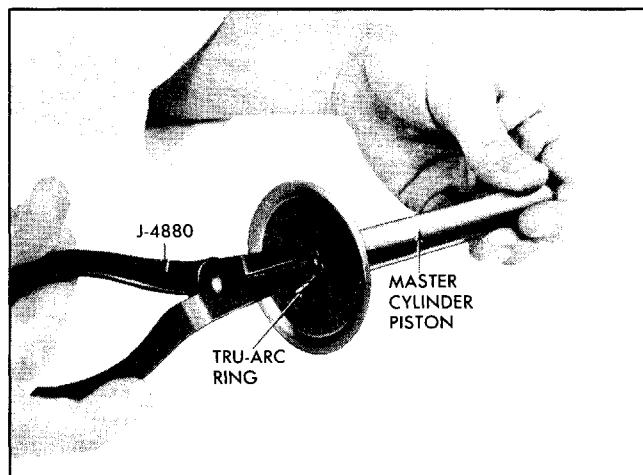

Fig. 5-57 Removing or Replacing Reaction Plate Snap Ring
10. Examine the reaction plate, which is held to the end of the master cylinder piston by small Truarc ring. If it is necessary to remove the reaction plate, expand the Truarc ring with special pliers J-4880 and lift off reaction plate (Fig. 5-57).
2. Place reaction plate over small end of piston with raised edge extending outward (Fig. 5-57).
3. Retain reaction plate on plunger with Truarc snap ring using special pliers J-4880 (Fig. 5-57).